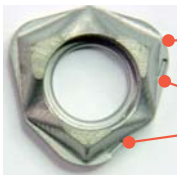
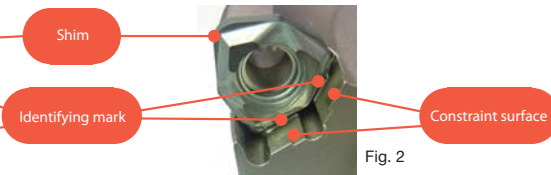

Fig. 1
Fig. 2
- The shim must be mounted in proper direction. While aligning the surface of the shim with the mark on it to the corresponding constraint surface (See Fig. 1) and lightly pressing the shim towards the constraint surface (See Fig. 2). Insert the screw into the hole of the shim and tighten (See Fig. 3). When tightening the screw, make sure that the screw is vertical to the bearing surface (See Fig. 3). recommended torque is 6.0Nm.